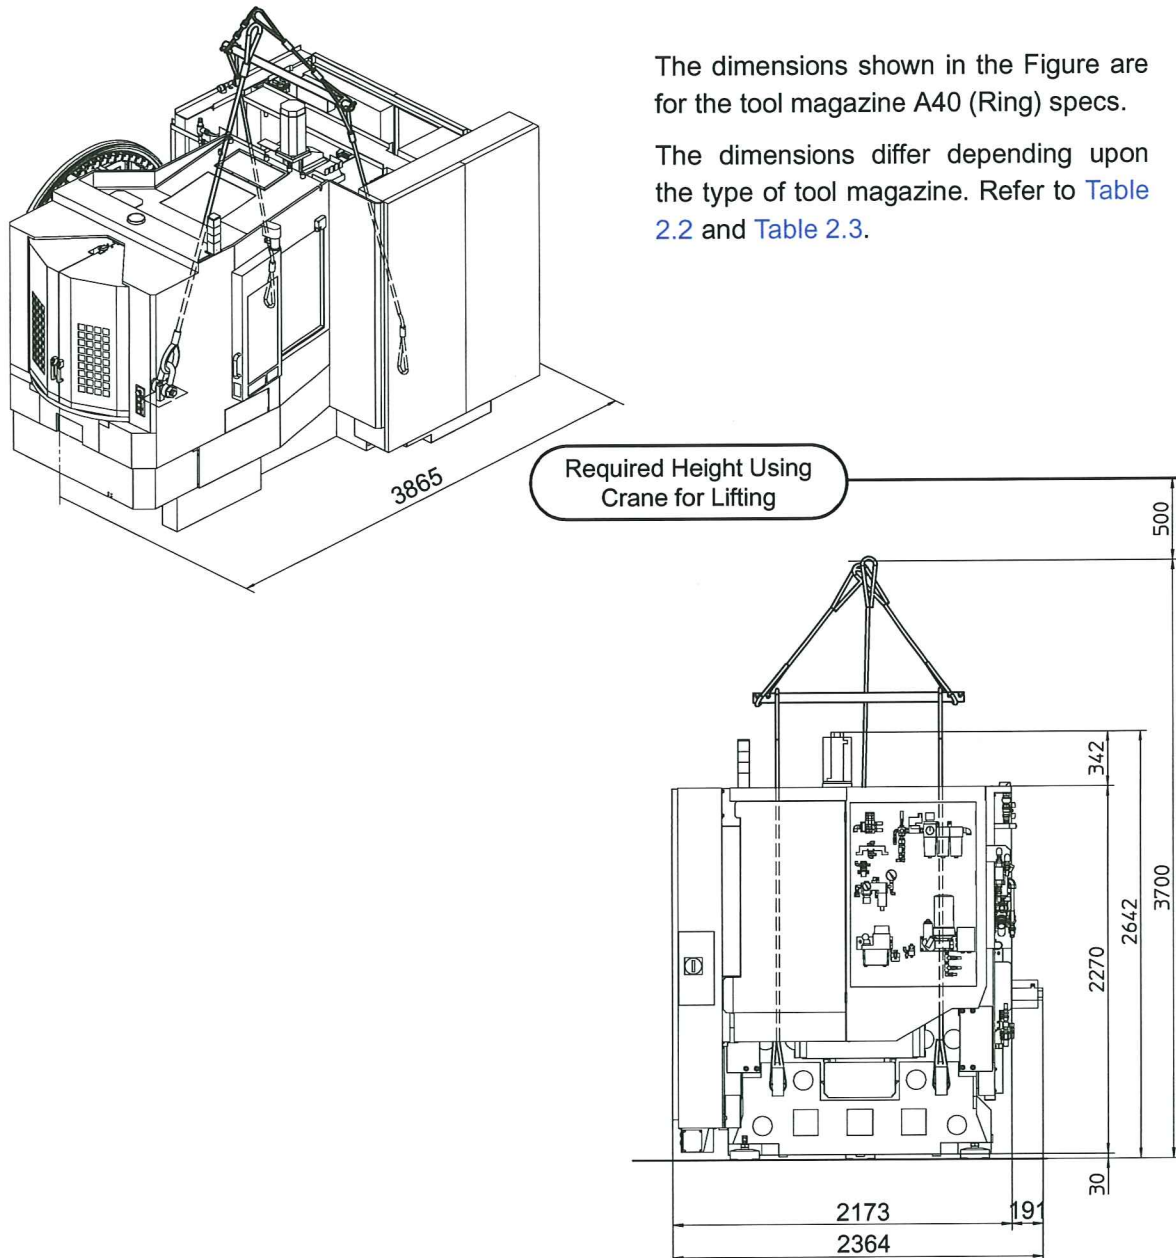
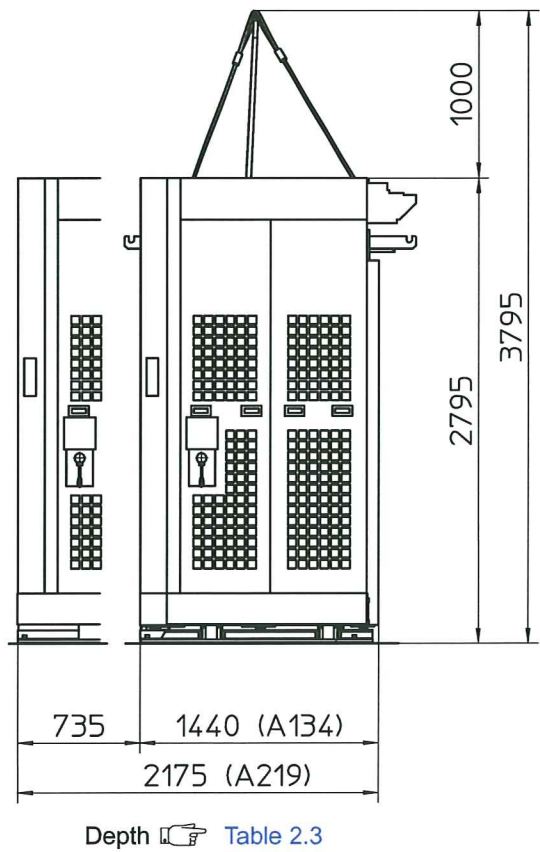

Figure 2.13 Lifting of Main Machine When Transported
Figure 2.14 Lifting of Tool Magazines (Matrix) When Transported
For Tool Magazine A40/A60/A99:  Table 2.2, Figure 2.13
For Tool Magazine A134/A219  Table 2.3, Figure 2.13, Figure 2.14
- Tool Magazine A134/A219 (Matrix)  Figure 2.14